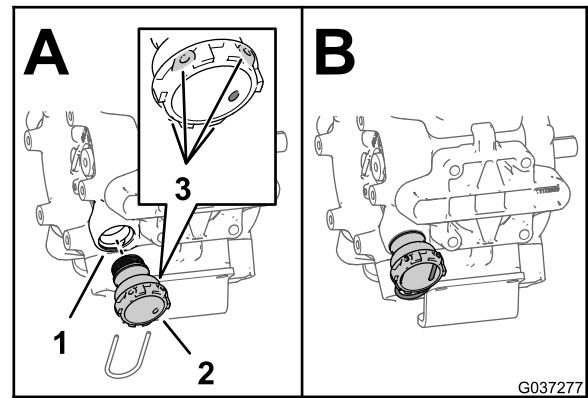
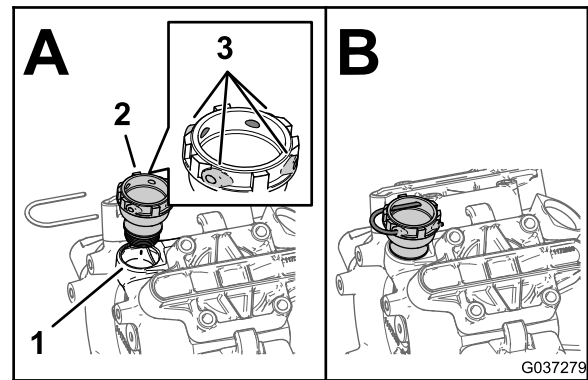

Figure 5
Figure 6
4. Assemble fitting 31.8 mm (1-1/4 inches) into the pressure port of the pump (Figure 5 or Figure 6).